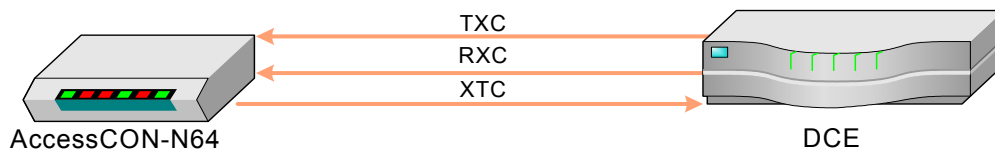

Fig. 1.4. DTE Description
- **DTE** – AccessCON-N64 sends the receive data accompanied by the receive clock to the user's equipment connected to the data port, and accepts data from the equipment according to the equipment transmit clock. *Figure 1-4* shows the flow of timing signals through the user's data port in the DTE mode.